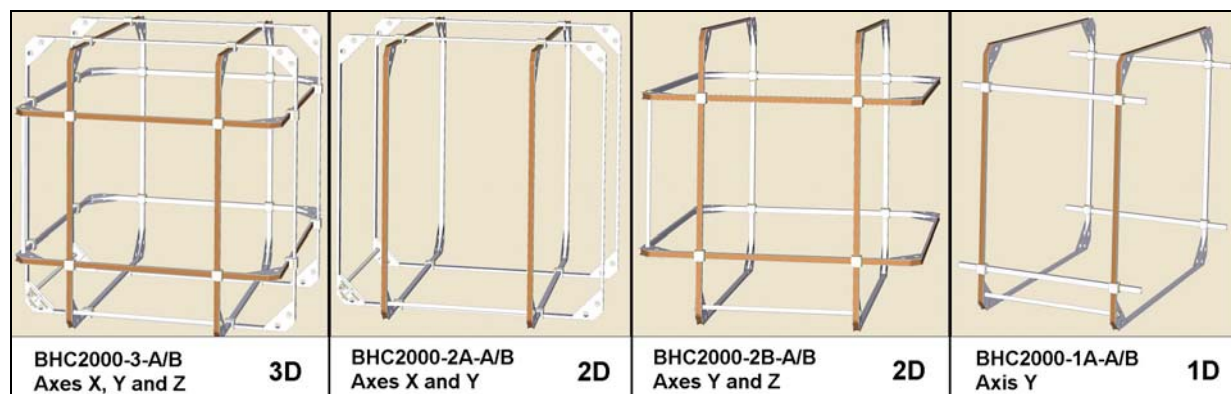

Fig.3: The different configurations available (BHC2000's family).
- These can be supplied in 2D and 1D versions (see also Fig. 3):